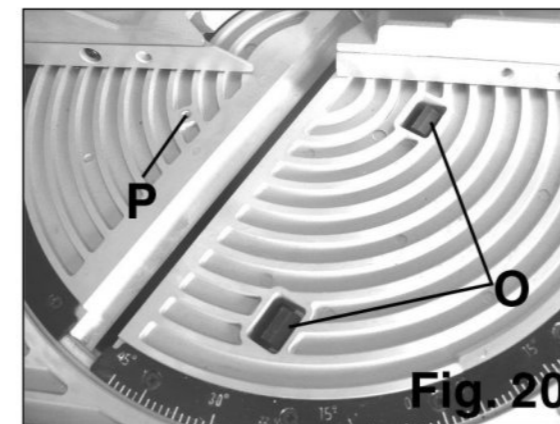

Fig. 20
6. Mount the cover for discharging dust (1) Fig.1 below the saw table, by inserting 2 black plastic heads (O) Fig.20 in the planned slots in the table.
7. Then, tighten the screw (Q) in the hole (P) Fig. 20, as shown in the Fig. 21. If not using a suction system, place a dust bag to one of two discharge nozzles.